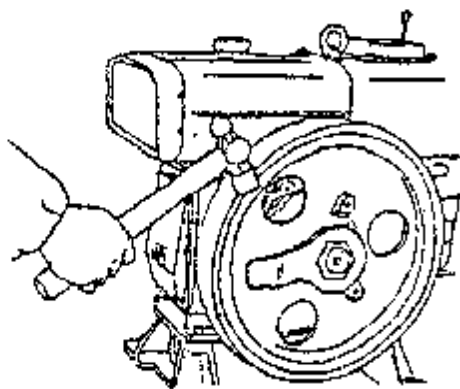

Fig. 2 Loosening the flywheel nut by knocking the handle of the wrench with a hammer.
3. Loosen the flywheel nut by means of a special wrench (knock the handle of the wrench with a hammer counter-clockwise, if necessary.), but do not screw it off (Fig. 2)